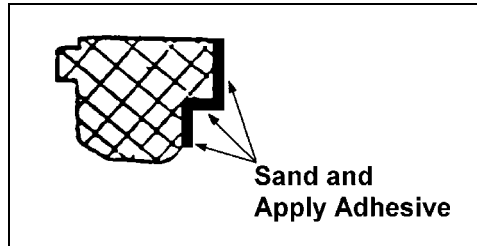

Figure 4 – Sanding the Seat
- b. Sand and apply Black Max adhesive (#119696) to areas as shown in Figure 4.